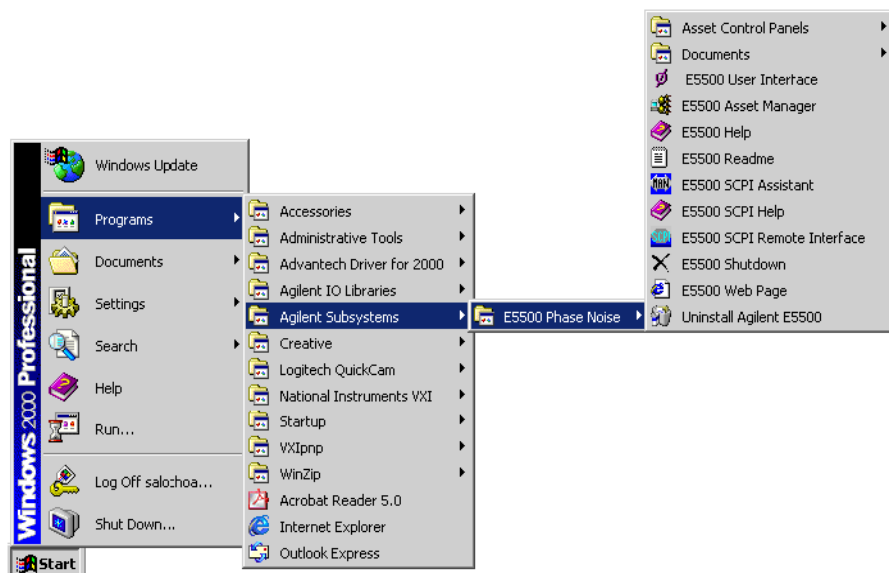

Figure 1-11 Navigate to Documents
- 3 Referring to Figure 1-11, navigate to Documents. You can view all documents that support the E5500 on-line using Adobe Acrobat Reader[®] (supplied).